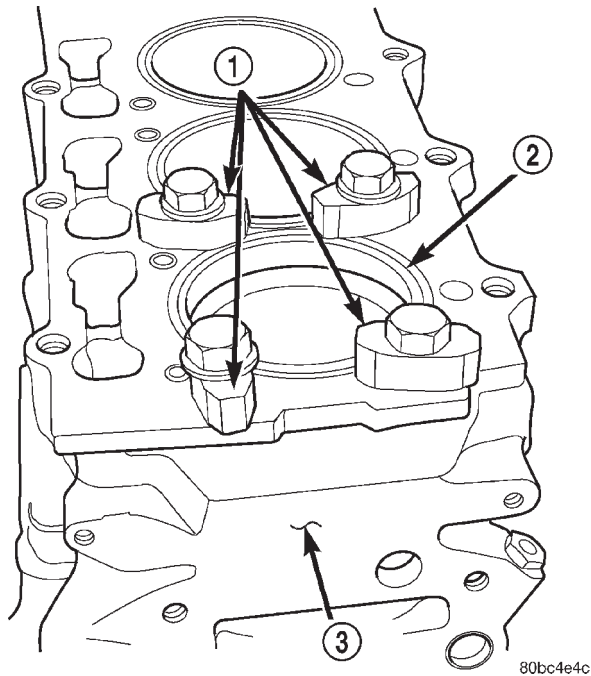

Fig. 105 Liner Clamp Location
(2) Measure the liner recess relative to block deck with a dial indicator mounted on a special tool VM-1010 A. **All the measurements must be taken on camshaft side.** Zero dial gauge on block deck.
(3) Move dial gauge to cylinder liner record reading on dial gauge.
(4) Remove liner and special tool.
(5) Then select the correct shim thickness to give proper protrusion (0.01 - 0.06 mm).
(6) Fit the shim and the O-rings onto the liner.
(7) Lubricate the lower liner location in the block. Apply LOCTITE AVX to the corner of the liner seat. Apply LOCTITE AVX uniformly to the upper part of the liner at area.
(8) Fit the liners in the crankcase making sure that the shim is positioned correctly in the seat. Lock the liners in position using special tool (VM-1016) and bolts (Fig. 105). Clean the residual LOCTITE on the upper surface of the block deck.
(9) Recheck the liner protrusion. It should be 0.01 - 0.06 mm.